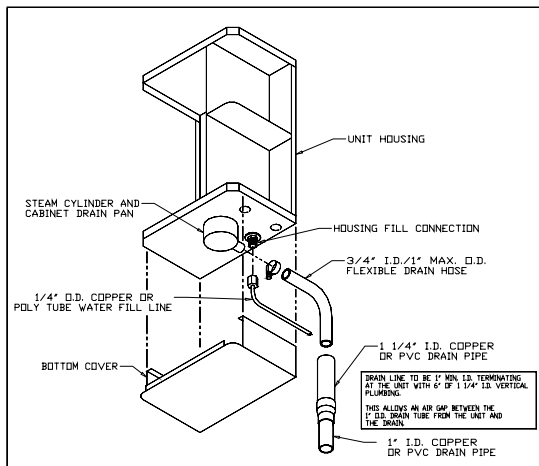

Figure 4
To make the necessary connections for water fill and drain the following steps are required: (refer to figure 4 for locations)
4. Insert the other end of the tube into a minimum 6" vertical length of 1-1/4" minimum I.D. copper line. The balance of the drain line should be 1" I.D. minimum with a minimum 1/8" per foot slope. (See Figure 4, page 8)